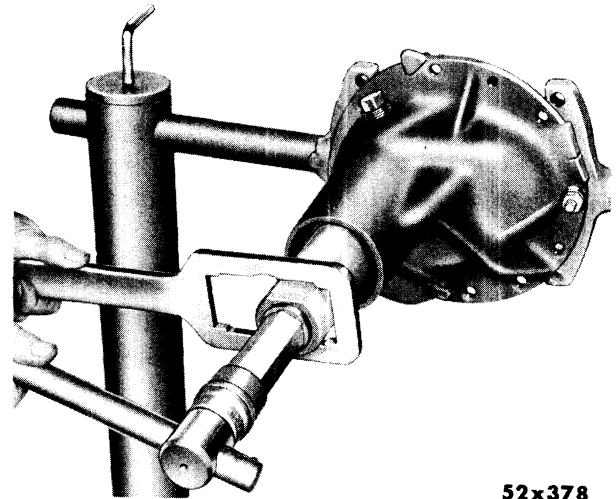

Fig. 33—Seating Bearing Cups in Carrier Housing
- (2) Place the front pinion bearing over the main screw, followed by adaptor SP-535, washer SP-534 and nut SP-533. Press the bearing cups into place by tightening the tool nut, as shown in Figure 33.
- (1) With bearing cups in carrier, slide rear bearing cone and spacer over **main body** of tool and insert in carrier.
- (2) Slide adjusting shims and front bearing cone over **main body**, as shown in Figure 33.